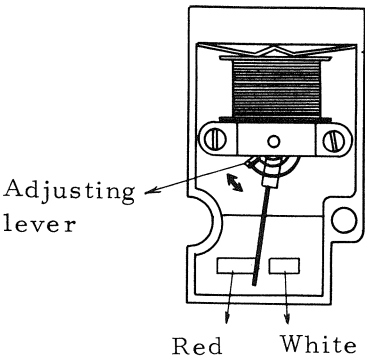

Fig. 18
- The needle should point to the dividing line between red and white when the voltage is 9.5V, as shown in the diagram below. (Fig. 18)
- Adjustment is made by turning the adjusting lever in the direction of the arrow. (Fig. 18)